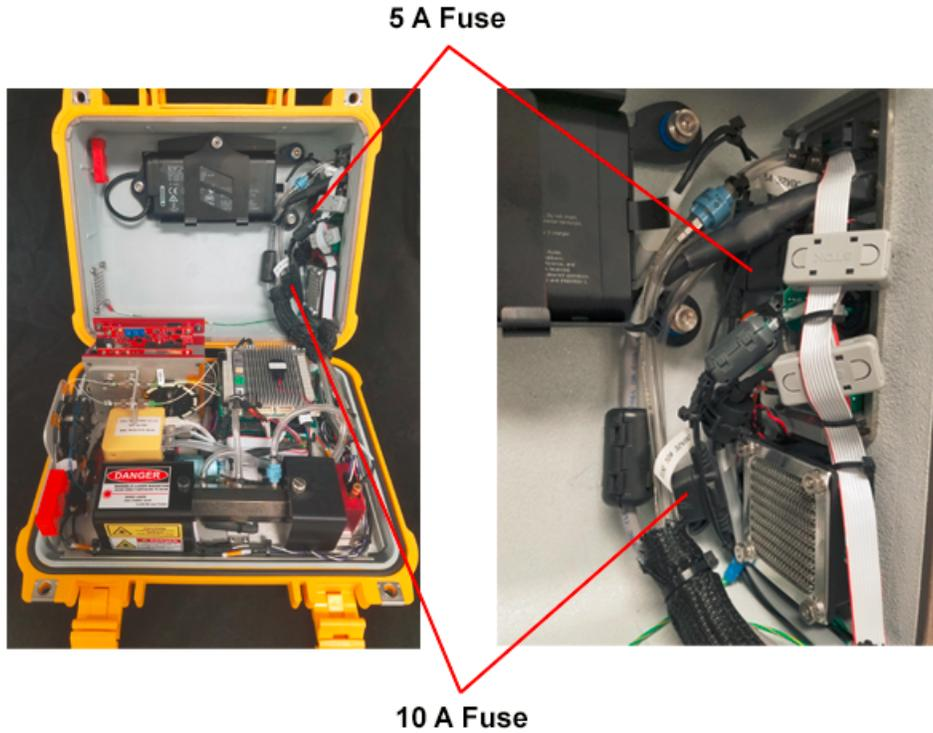

Figure 64: Analyzer Fuse Locations
6. Locate the fuse: See Figure 64 for locations (overall and close-up views).